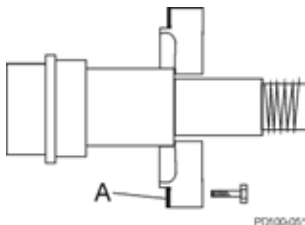

Figure 40 - Remove Sealant from Retainer
4. Scrape the silicone sealant (Figure 40, item A) from the bearing retainer and gear case.